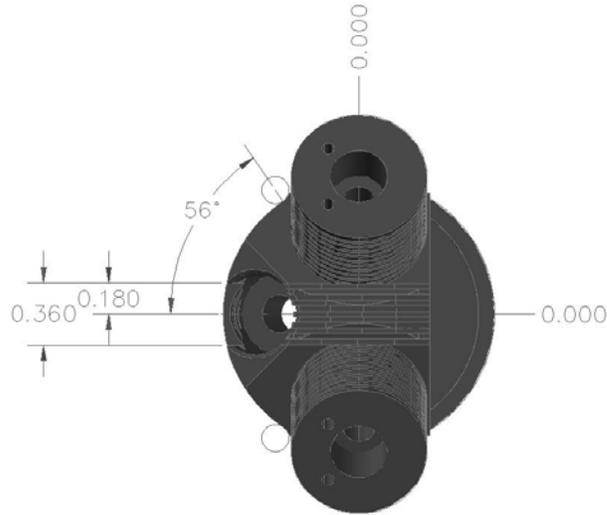

Figure 5
1. The excess material remaining on the front of the head is removed with the part set up on a rotary table as in Figure 5. Using 3/16” endmill, mill away the waste to the 1.563” diameter of the fins and as close to the valve towers as possible (approximately 56° each side of center).